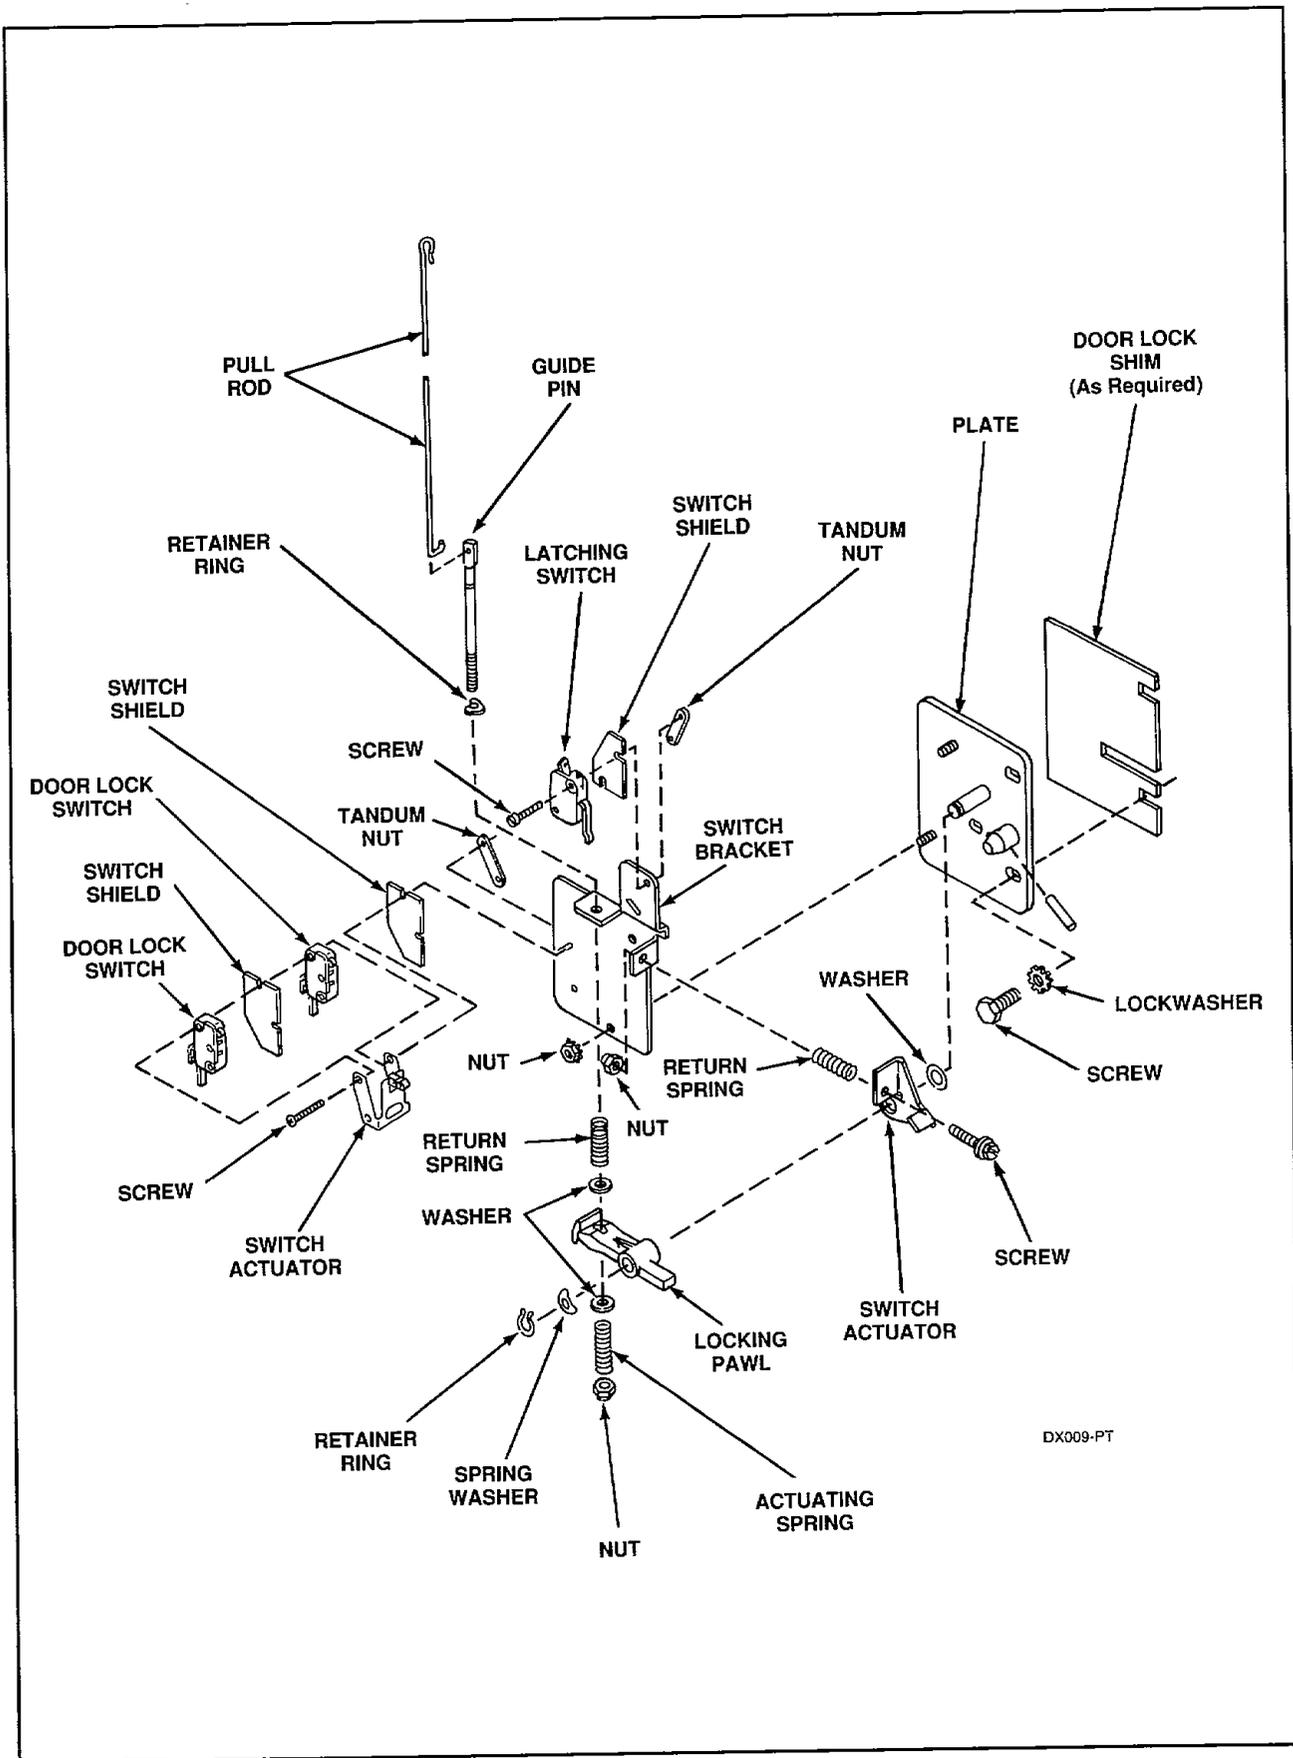

Figure 9
**NOTE:** See *Figure 9* for assembly sequence of door lock assembly.